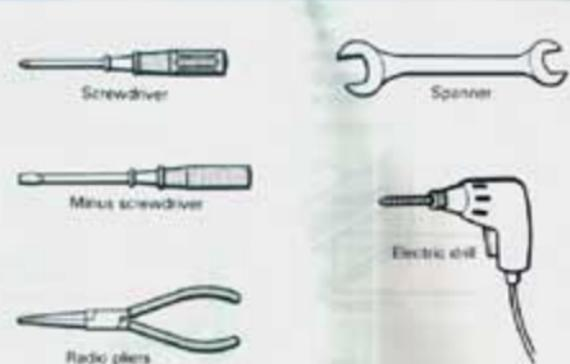

Fig. 1
- First prepare the necessary tools. (Fig. 1)